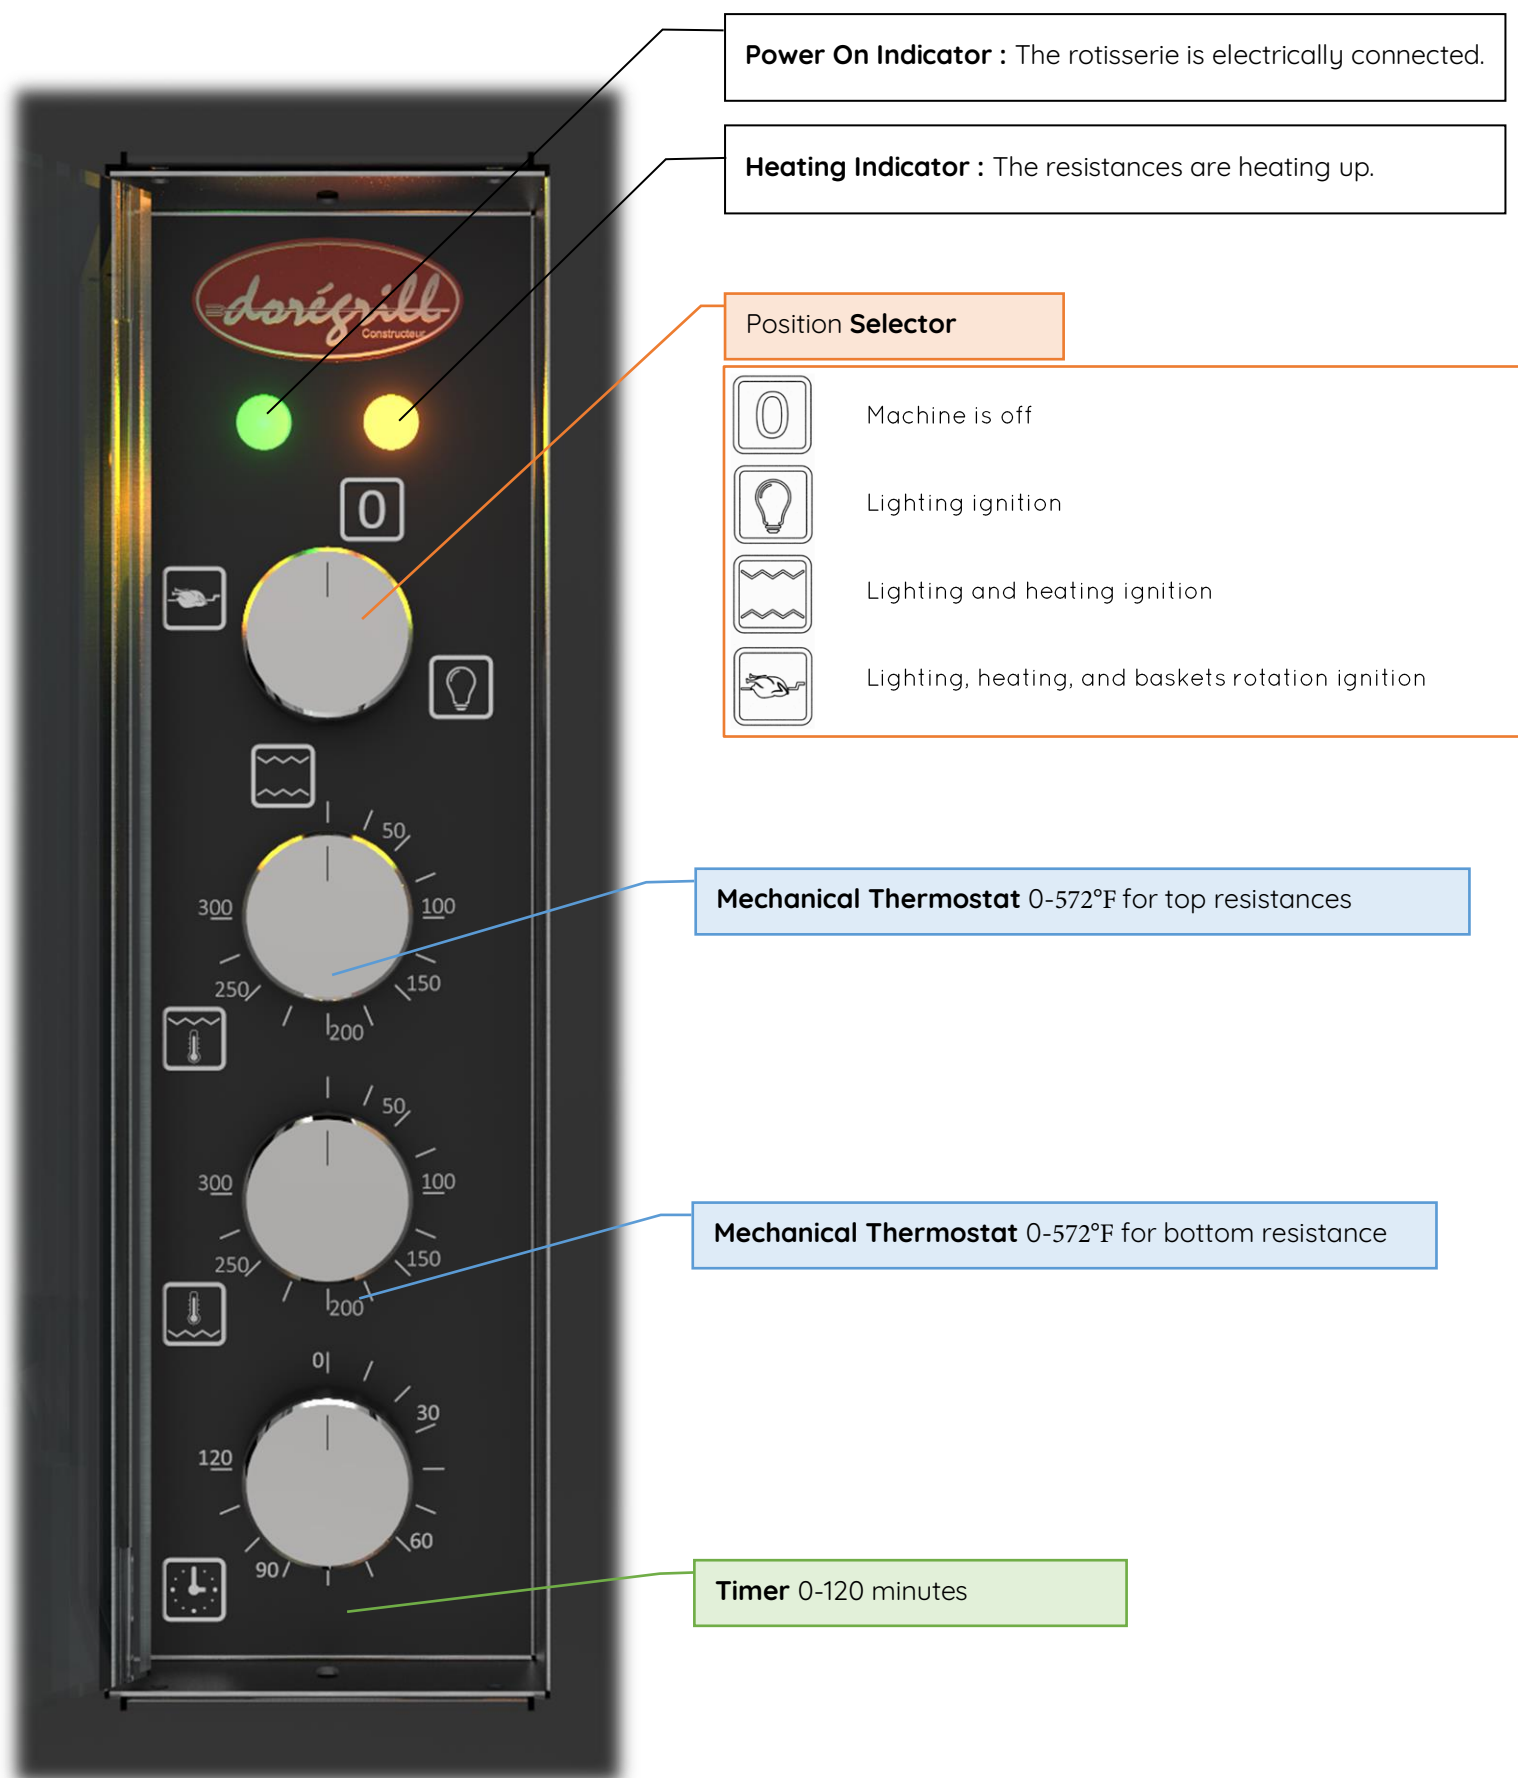

Fig. 3- (Control panel)
- A control panel **11** (*Fig. 3*).